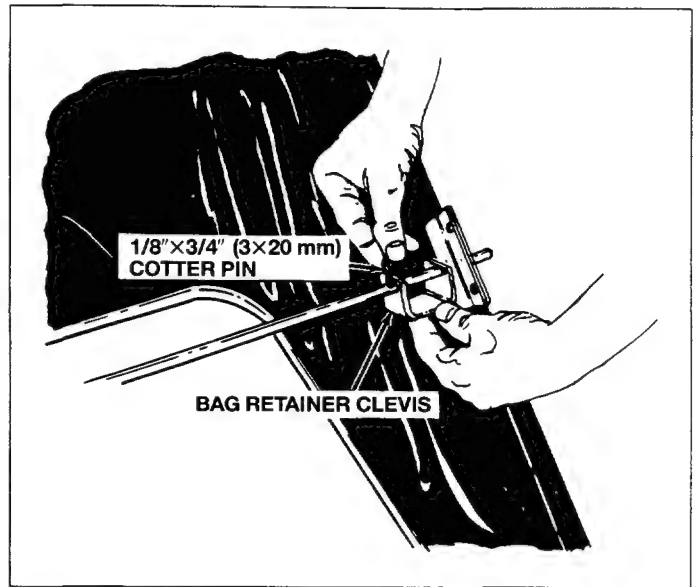

Fig. 24
14. Secure the bag retainer clevis on each side of bag with 1/8"×3/4" (3×20 mm) cotter pins. See figure 24.